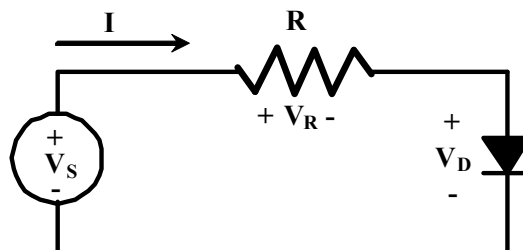

Figure 5: A diode circuit
PL1. Consider the diode circuit illustrated in Figure 5 in which  $R = 470 \Omega$ .
TABLE I: Predicted Values for the circuit of Figure 5
**P1.** Using the bench power supply to establish the DC voltage, construct the circuit of Figure 5 (found in the prelab). As you will be asked to measure voltages and currents in the circuit for several values of input voltage, determine how to use the DMM to complete the following table.
TABLE II: Measured Values for the circuit of Figure 5
*In Lab 5 we will use MATLAB to plot your measured data and thus create an I-V curve for the IN4004. We are now finished with the circuit of Figure 5.*